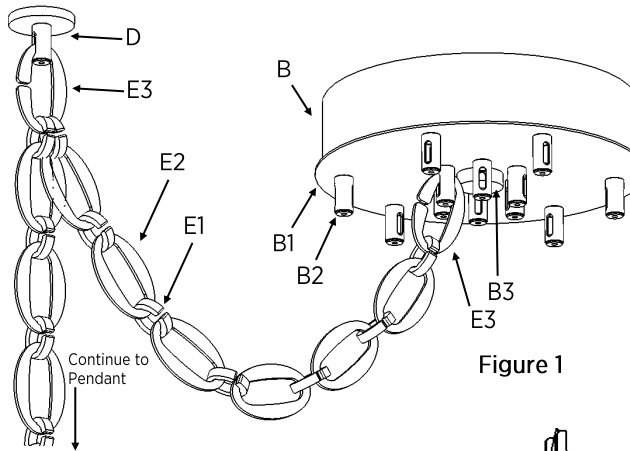

Figure 1
**Step 5:** Starting from the Open Chain Link (E3) attached to the mini canopy (D2) Assemble the chain by interlocking alternating Flat Chain Links (E2) and Ring Chain Links (E1) (See Figure 1 for example) until desired overall height for pendant is achieved. Then, starting from the Open Chain Link (E3) attached to the mini canopy (D2) once more, assemble the chain towards the main canopy until the distance between the main canopy and the mini canopy is covered.